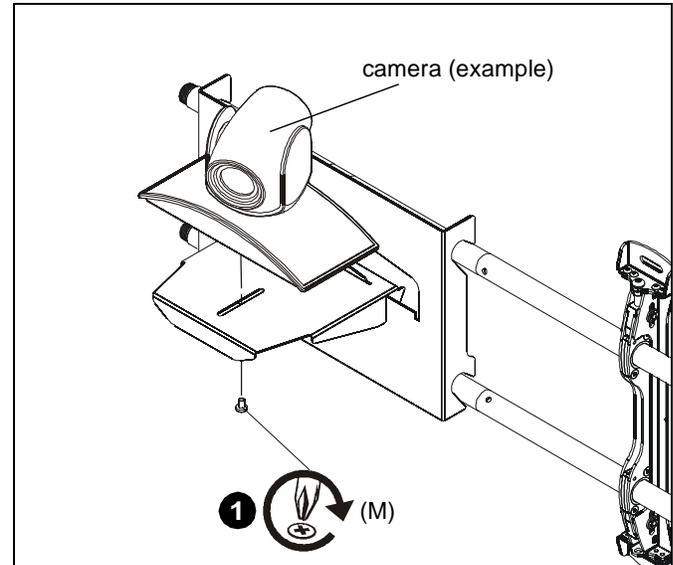

Figure 5
1. Install 1/4-20 x 3/8" Phillips pan machine screw (M) through mounting slot and into hole on bottom of camera. (See Figure 5)